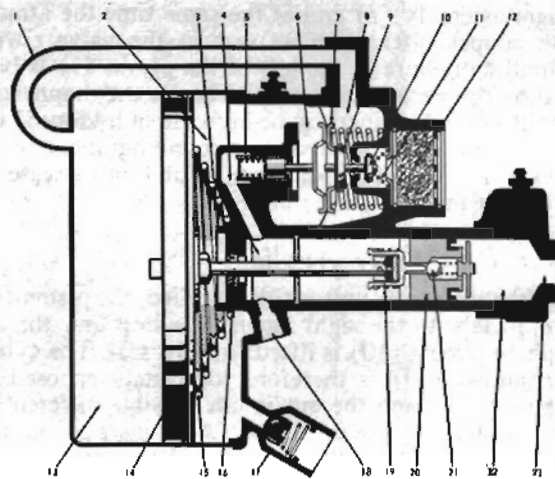

FIG. 28 POWER UNIT IN APPLIED POSITION
*Power Unit Applying (See Fig. 28)*
When the brake pedal is applied, fluid under pressure by-passes the ball check valve (21) and enters the cylinder chamber (22) and the line to the wheel cylinders. At the same time pressure is built up at the left of the valve piston (5), moving the piston to the right, contacting the diaphragm seat with the vacuum poppet (9), and opening the atmosphere poppet (10) (see Fig. 28). Atmosphere passes through the air cleaner (12), past the open poppet (10), into the valve chamber (8), and then through the tube (1) to the cylinder chamber (13).